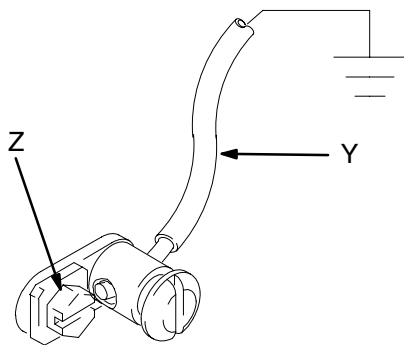

Fig. 2
- **Pump:** Remove the ground screw (Z) and insert through eye of ring terminal at the end of ground wire (Y). Fasten ground screw back onto pump and tighten securely. Connect the other end of ground wire to a true earth ground. See Fig 2. *To order a ground wire and clamp, order Part No. 222011.*